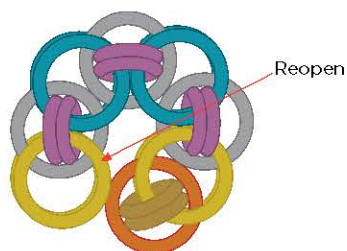

FIG. 4
4. Bring both ends of the chain together (**FIG. 4**).
5. Reopen the 2 large (yellow) jump rings at the beginning of the chain as indicated in **FIG. 4** and slip them,